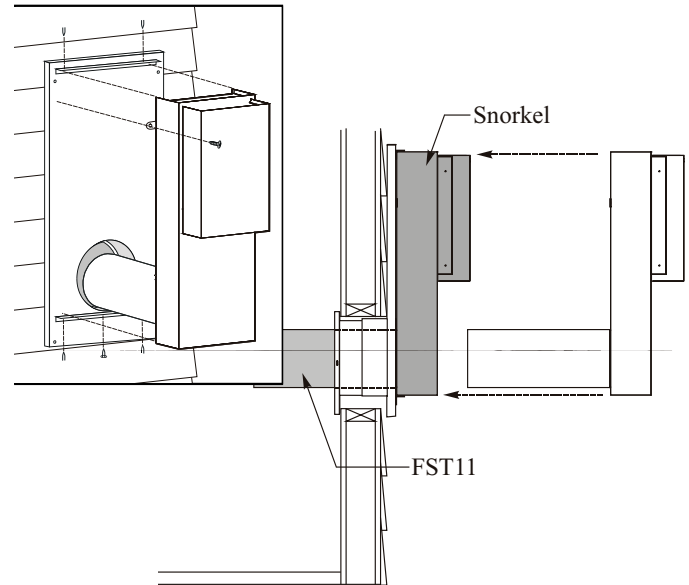

Figure 9. Attaching the snorkel termination to the outer wall plate.
- Slide the stove forward and remove the FST11 pipe. Attach the FST11 to the snorkel termination, and mount the assembly on the outer wall plate between the two alignment tabs as shown in figure 9. Fasten it in place with at least two screws at the top and two at the bottom.